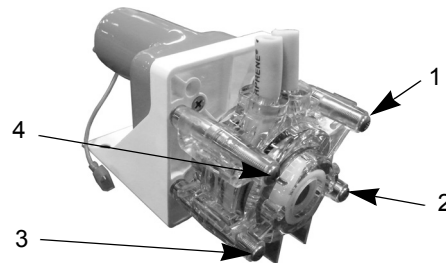

Figure 15. Pump Body Screws
2. Loosen and remove the four screws from the pump body (See Figure 15).
7. While holding the pump halves together with your hand, reinsert the four thumb screws (See Figure 15) and tighten using a criss-cross pattern as shown. The thumb screws should be tightened about 1/4 turn beyond snug.